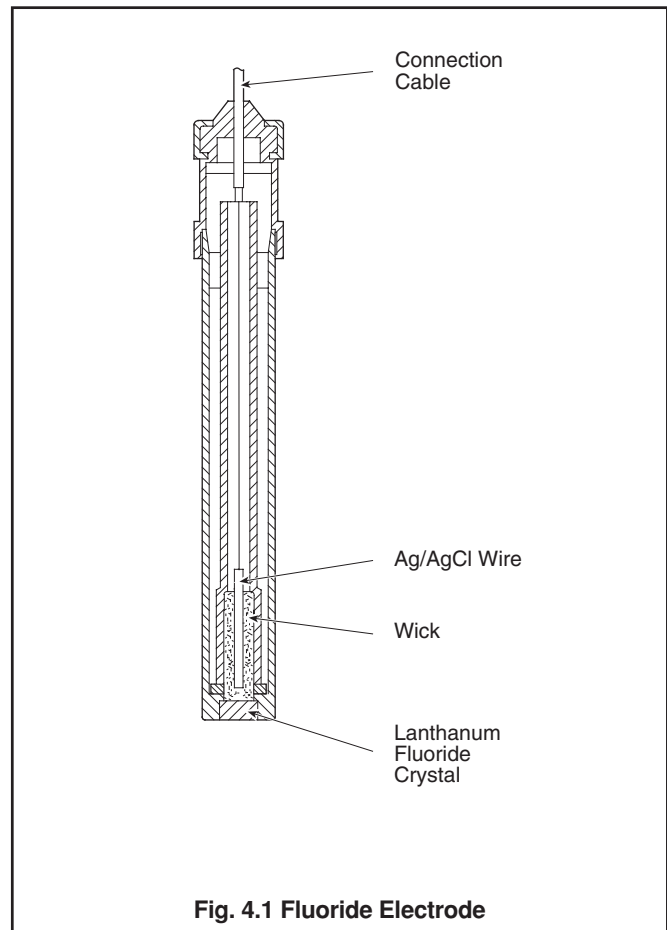

Fig. 4.1 Fluoride Electrode
4.1 Principle of Operation – Fig. 4.1